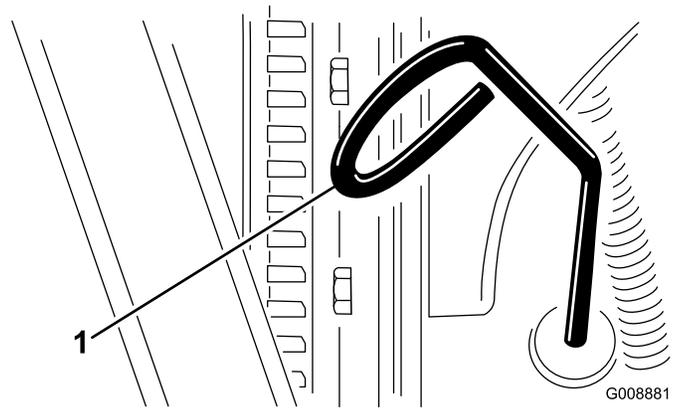

Figure 26
3. Remove the dipstick, wipe it clean, and install it (Figure 26).